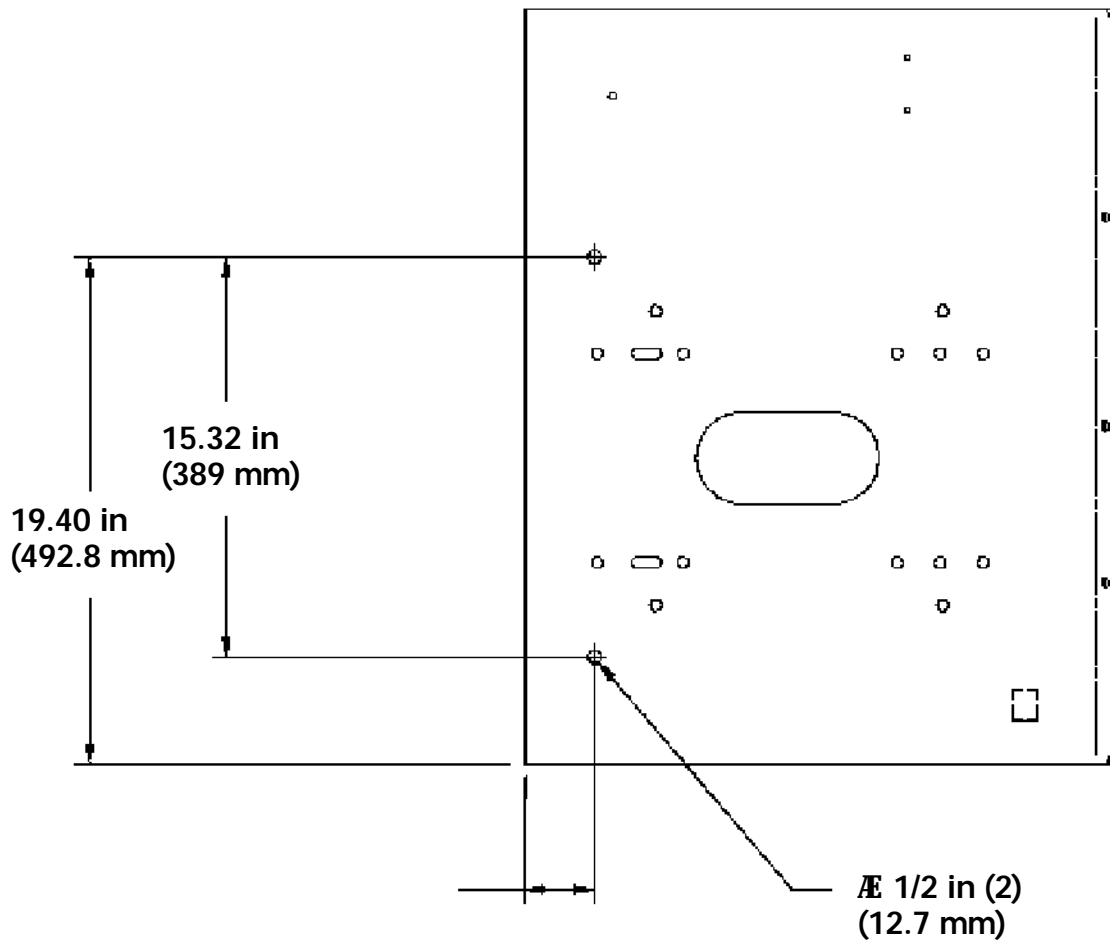

FIG. 1 - HOLE LOCATIONS FOR SEAT BELT INSTALLATION
(Refer to FIG. 1)
3. Drill two 1/2 in. (12.7 mm) seat belt mounting holes in seat weldment according to measurements given in figure one. (Refer to FIG. 1)
4. Mount seat belt (1), to seat weldment with hex screws (2), washers (3) and nuts (4).